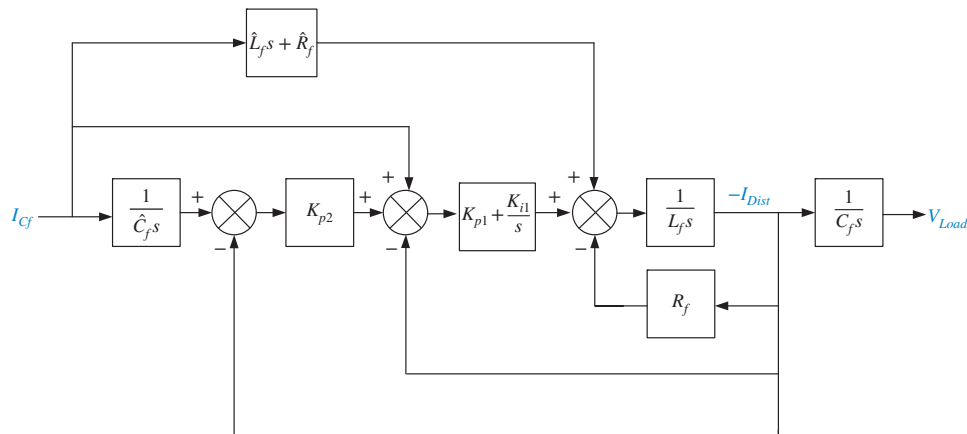

FIGURE I-5.11
18. A hybrid solar cell and diesel power distribution system has been proposed and tested (Lee, 2007). The system has been shown to have a very good uninterruptible power supply as well as line voltage regulation capabilities. Figure I-5.11 shows a signal-flow diagram of the system. The output,  $V_{Load}$ , is the voltage across the load. The two inputs are  $I_{Cf}$ , the reference current, and  $I_{Dist}$ , the disturbance representing current changes in the supply.
- Refer to Figure I-5.11 and find the transfer function  $\frac{V_{Load}(s)}{I_{Cf}(s)}$ .